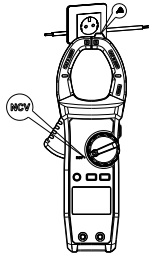

Figure 7
**5. Non-Contact AC Electric Field Sensing (NCV) for UT205B and UT206A+ (Figure 7)**